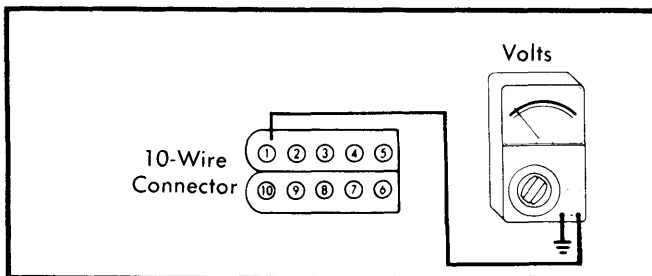

Fig. 7 Voltmeter Hookup for Checking Terminal 1 Voltage
6) If spark results, but engine will not start, turn ignition switch to the "RUN" position. Connect positive voltmeter lead to terminal 1 of 10-wire connector and negative lead to a good ground. See Fig. 7. Reading should be within 1 volt of battery voltage. If not, check wire for open and repair it. Repeat this step after repairing wire. Reconnect 10-wire connector to computer.